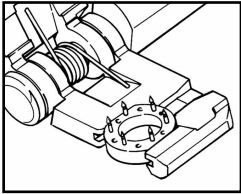

Figure 5a
7. Visually inspect to see that both rings are seated at the bottom of the U portion of the jaw and the pins are not bent (See Figures 5a & 5b). If pins are bent, do not attempt to straighten. Instead use a new FLOW COUPLER Device.
11. When both vessel ends have been suitably impaled, visually inspect to ensure that both rings are seated at the bottom of the U portion of the jaw and the pins are not bent (See Figures 5a & 5b). Bring the rings together (See Figures 10 & 11) by turning the Anastomotic Instrument knob clockwise.